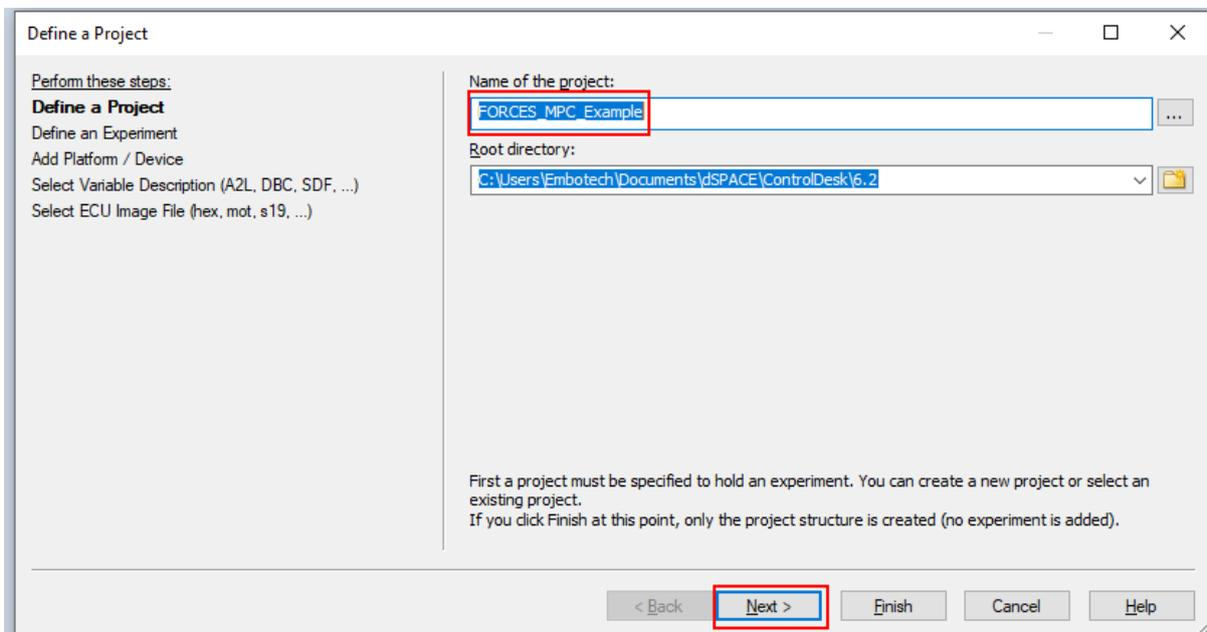
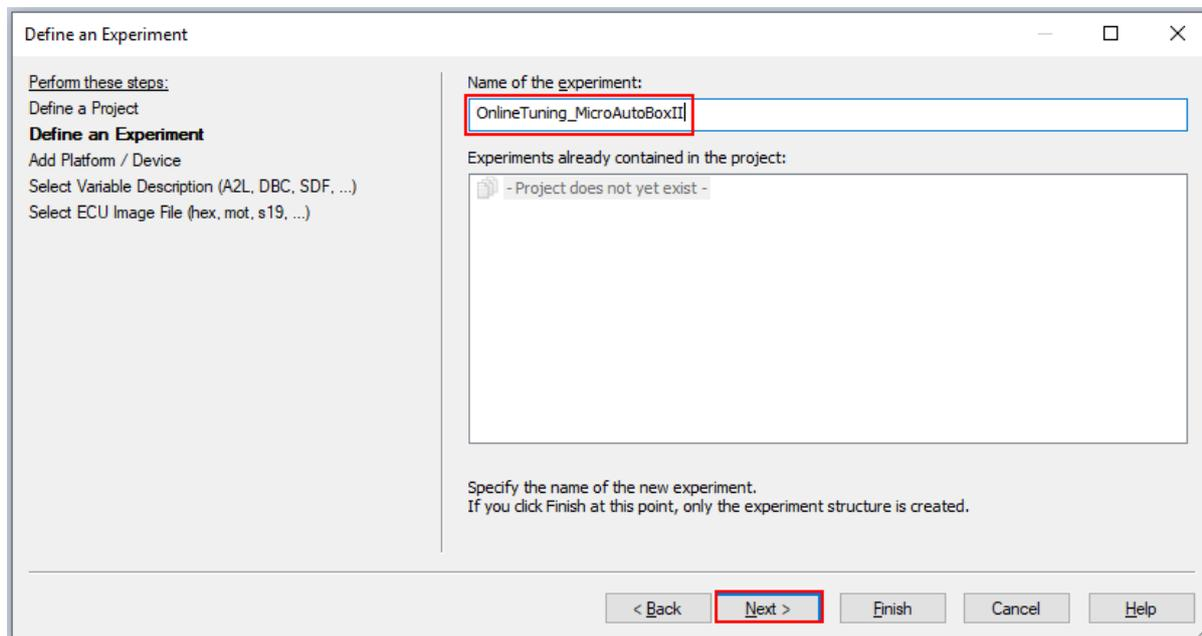

Figure 6.9: Name your project
Figure 6.10: Name your experiment
- Name the project and the experiment (see Figure 6.9 and Figure 6.10).